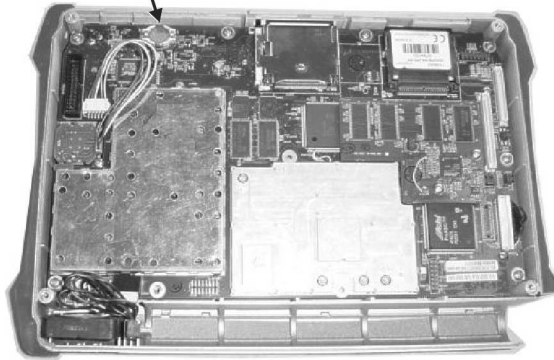

Figure 15. RTC Lithium Battery on the Main PCB
2. Carefully remove the RTV from the battery (Figure 15).